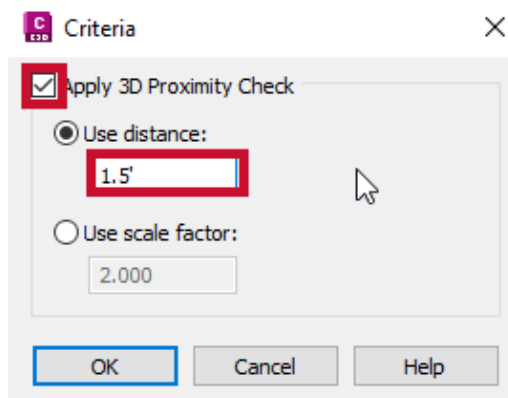

Figure 3.28 – Criteria Proximity Check Settings
8. Just as in our previous *Step 5*, let's go ahead and click on the **Apply 3D Proximity Check** button again and set the distance to 1.5', as shown in *Figure 3.28*.